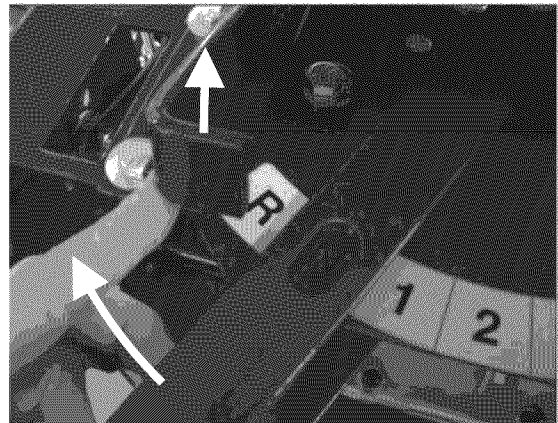

FIGURE 3.19
1. With both Traction Levers locked, depress Operator's Presence Control (OPC) against handle. See Figure 3.19.
2. Lift up on reverse lockout lever, and move transmission shift lever from the neutral ('N') position into reverse ('R') gear. See Figure 3.19.